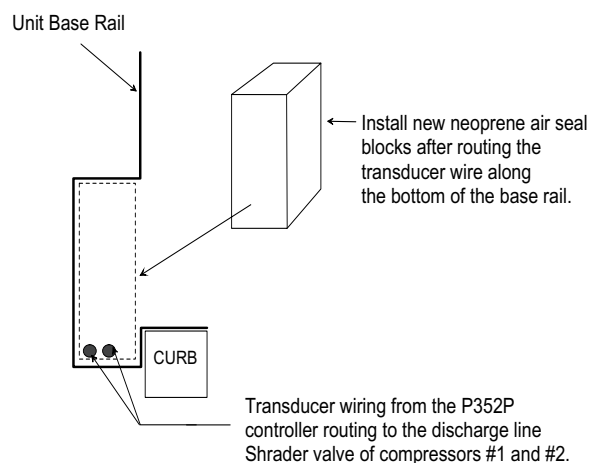

FIGURE 3 - TRANSDUCER WIRE ROUTING
- Remove Neoprene air seal blocks. (See Figure 3)
- Route the pressure transducers along the inside bottom of the base rail channel to the compressor discharge lines. (See Figure 3)